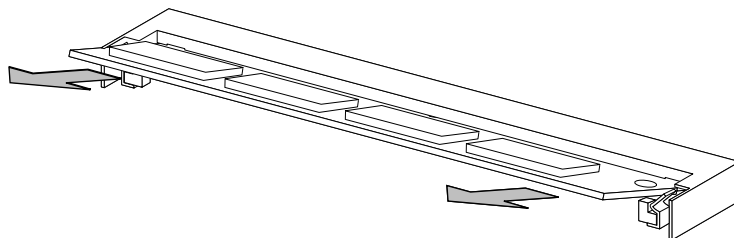

Figure 2-3. Removing the SIMM
3. **Rotate the SIMM upward and lift it out of its socket** (Figure 2-3).